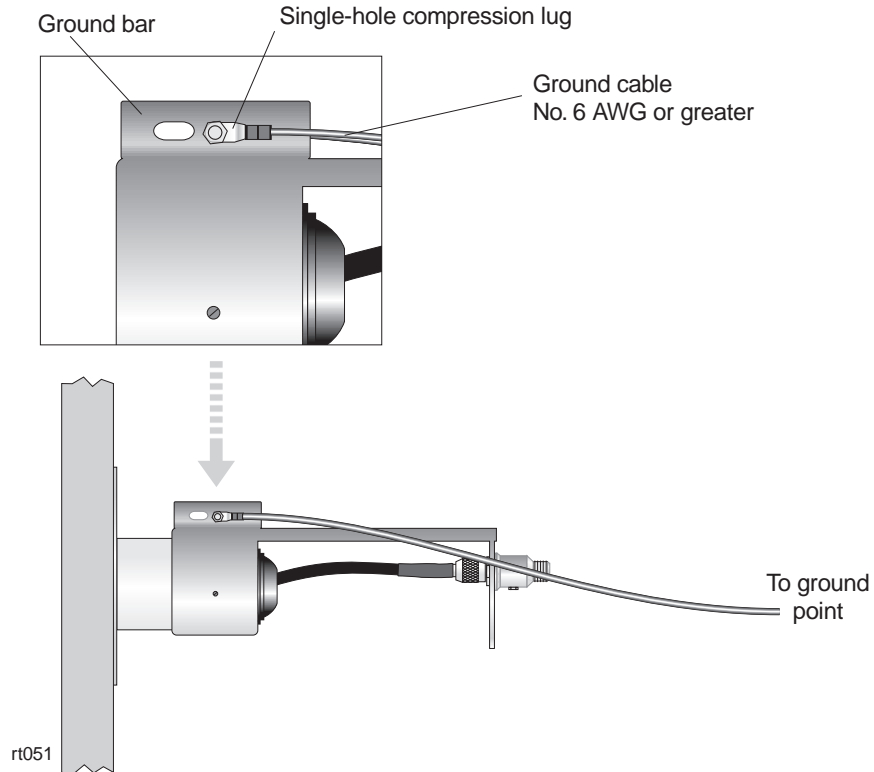

Figure 4-10 RT lightning arrester grounding connections
1. Connect one end of the ground cable (No. 6 AWG or greater, green) to the lightning arrester ground bar, as shown in figure 4-10.